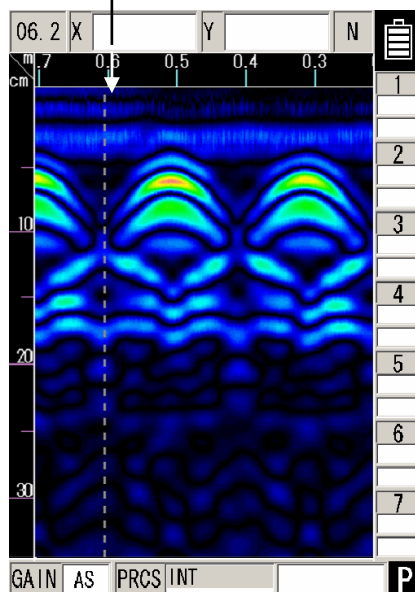

Figure 3-9 Display after real-time manual deduction processing
- (1) Place the **[14]** ▽ key on the side of this product over the start line and the forward/backward **[14]** ▽ key over the scanning line.
- (2) Press the **[9]** **START** key for more than one second. After about one second, a short single beep sound is generated, the fixed cursor is displayed at a position of about 10cm of the movement distance scale on the B-mode screen, and then scan preparation is complete.
- (3) Press the **[9]** **START** key and hold it pressed down, then move this product on top of the scanning line at a speed of less than 40 cm/s by rotating the wheels. If speed exceeds 40 cm/s, a beep sounds and the data for that timeframe is invalid. Please perform the scanning again.
- (4) When results for objects that are not being probed overlap with the fixed cursor position, push the **[5]** **ENTER**. (See Figure 3-9.) The reflected wave that the fixed cursor is pointing to can be processed into a surface wave by real time manual deduction. The resulting data of this processing is indicated in **A** mode or **BA** mode. A **↓** is shown at the position that the real time manual deduction processing was performed on the movement distance guide. In the **PROC** area at the bottom right of the screen, **MAN** is displayed.
- (5) Press the **[11]** ▼ key to finish the scan test. A double beeping sound is generated and the scanning is stopped. In addition, after 8 seconds from releasing the **[9]** **START** key, a double beeping sound is also generated and the scanning is stopped. If the scan distance reaches to 15 m, a double beeping sounds is generated and the scanning automatically finishes.